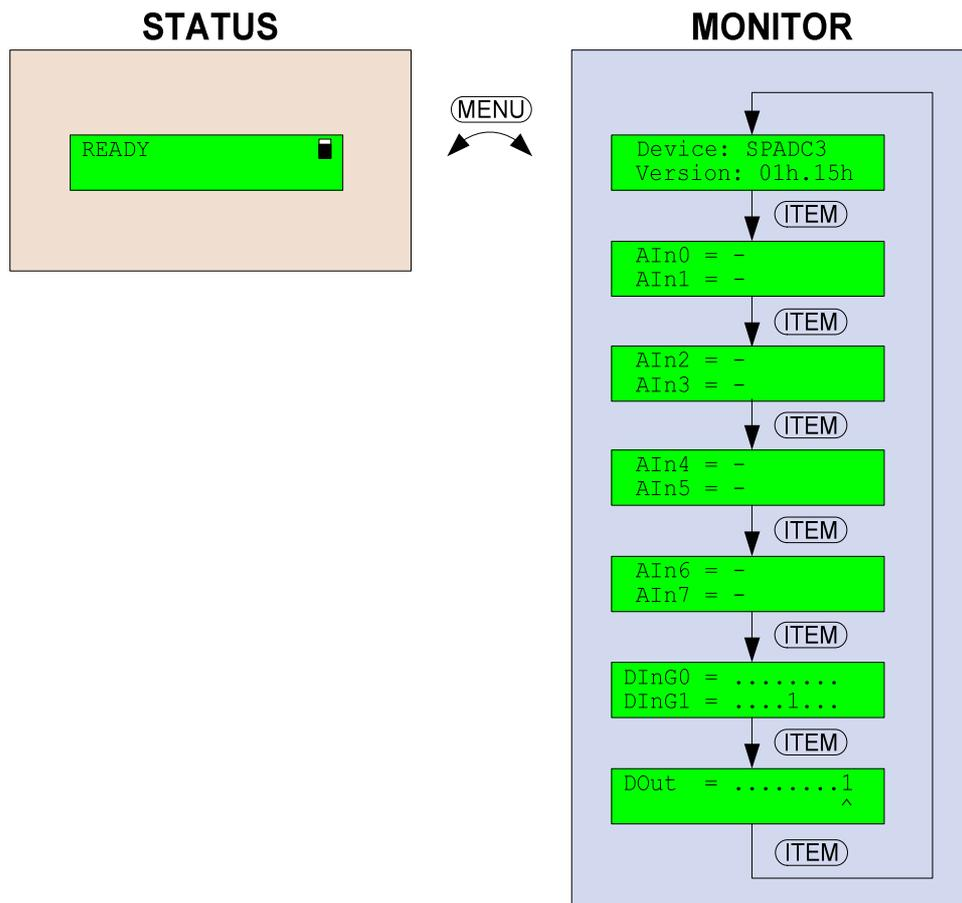

Figure 55 – Monitor map
- By pressing button **ITEM** on SM2 you will browse states of device according to figure 55.